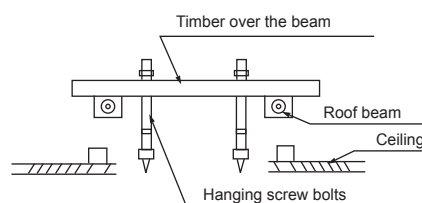

Fig.5-3
- Please Refer to Fig. 5-3 and Fig. 5-4 for the hanging screw bolts distance